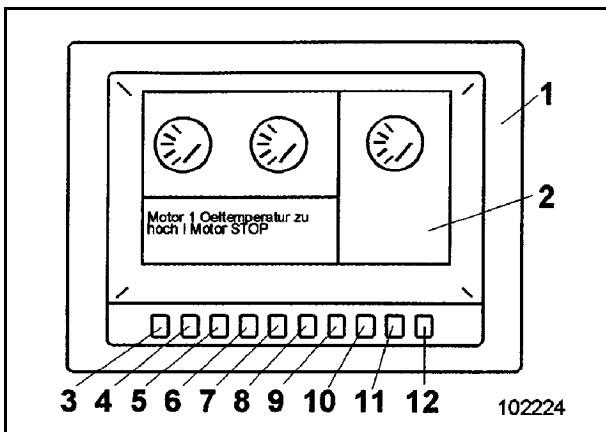
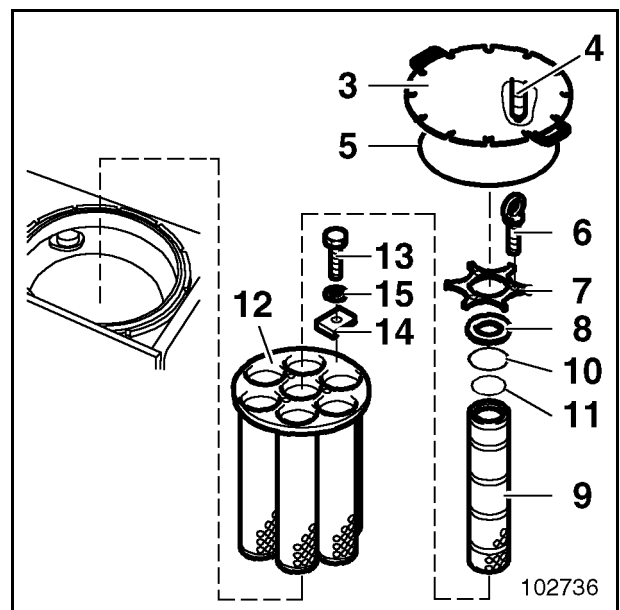

Fig. 3-66:
Fig. 3-67:
- when the BCS displays a warning on the screen (Fig. 3-66:). In this case, the filter elements (9, Fig. 3-67:) are heavily contaminated;
- ➡ Remove cover (3) together with sealing ring (5) and retaining disk (7).
- ➡ Remove cap (8) and sealing ring (10).
- ➡ Withdraw filter element (9) and sealing ring (11) from basket (12).